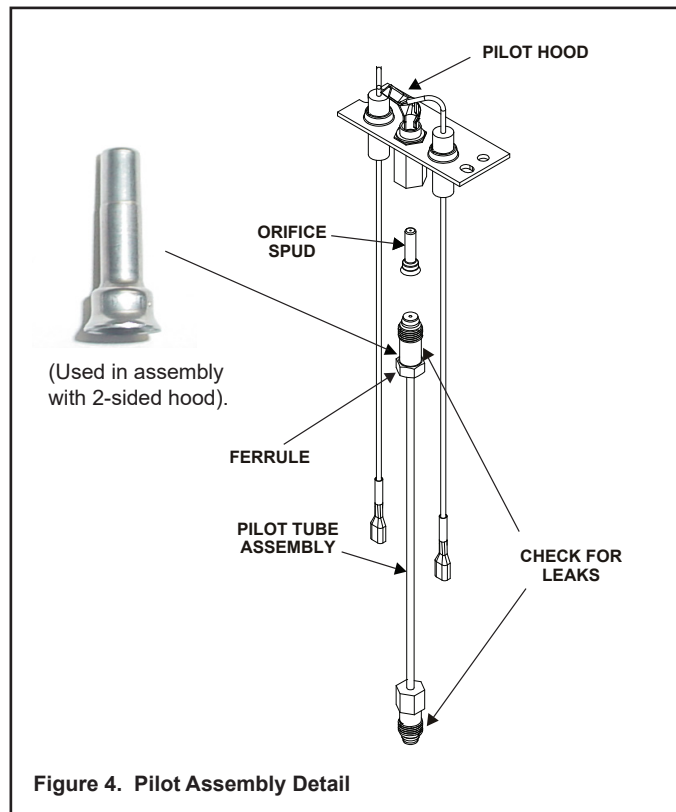

Figure 4. Pilot Assembly Detail
- Locate the ferrule on the underside of the pilot. See Figure 4. Use a 7/16 inch wrench to loosen the nut to remove the pilot tube. Remove the pilot spud and replace with the pilot spud included in the kit. Insert the pilot tube into the ferrule fitting and tighten the nut to secure pilot tube to the pilot assembly.
15. Use a commercially available, non-corrosive leak check solution to test for leaks around the pilot. Be sure to rinse off all leak check solution following testing. See Figure 4 for leak check points. Extinguish the pilot. Turn fireplace OFF.